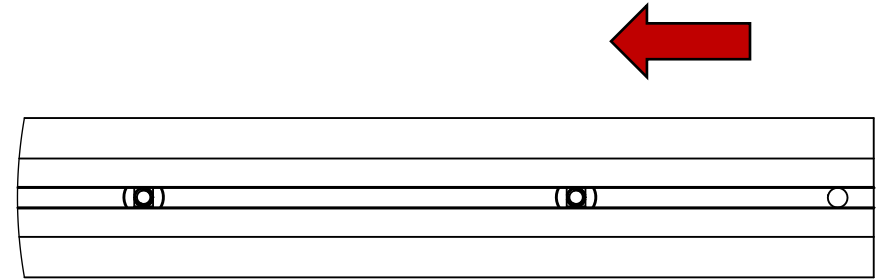

Figure 8
4. **Insert the Carriage Bolts into the slotted Crossbar.** Examine the Crossbars (Item No. 1) and notice that a slot runs down the length of each Crossbar. Insert (2) 1" Carriage Bolts (Item No. 10) into each end of each Crossbar – a total of 8 times. For the moment, arrange the Carriage Bolts about 9" apart as shown in Figure 8.